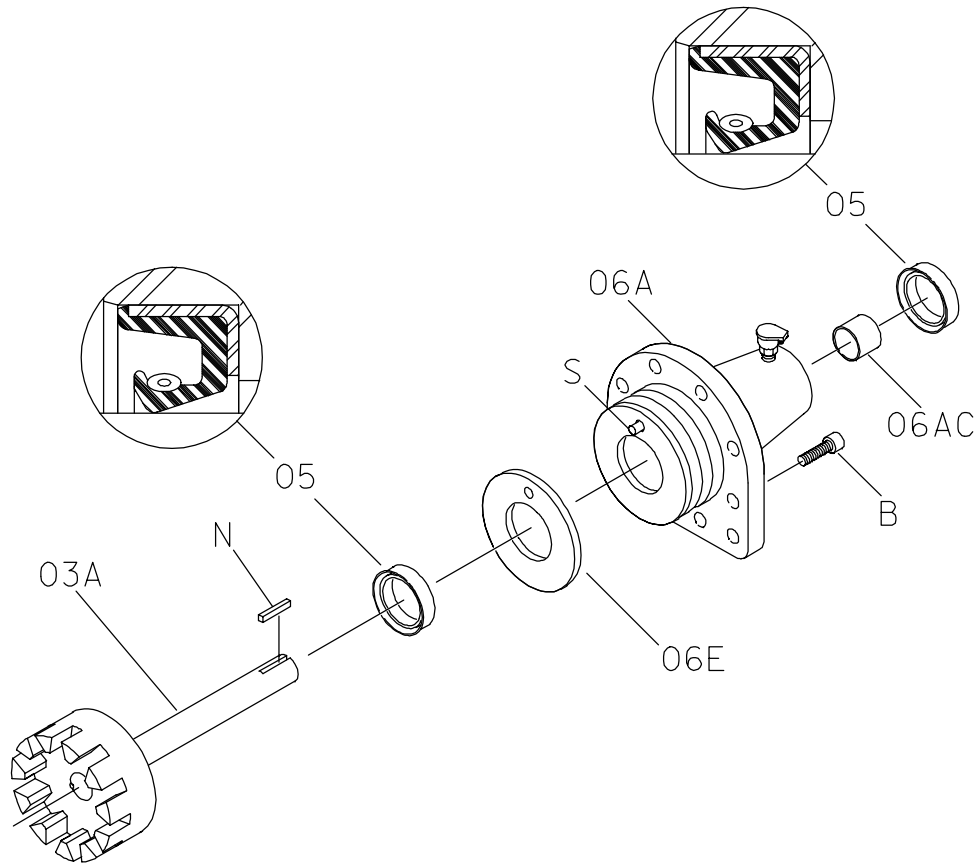

Figure F-2. Standard Lip And Optional 65A And 65C Seal
Assemble the backhead kit (06) as described in **Pump Reassembly, Section E**. Position the backhead on the bed of an arbor (or hydraulic) press with the drive end down. Lubricate the lip seal with grease and press it into the backhead bore with the lip positioned as shown in Figure F-2 until fully seated.